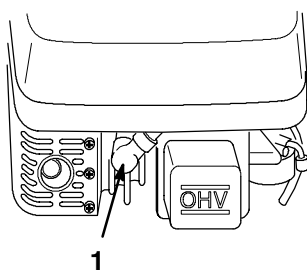

Figure 9
1. Connect the wire to the spark plug (Fig. 9).